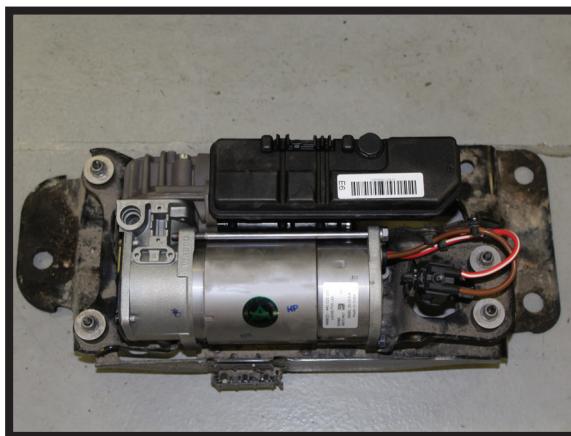

FIGURE 14
1. ASSEMBLE THE NEW AIR SUSPENSION COMPRESSOR USING THE INCLUDED HARDWARE IN REVERSE ORDER OF REMOVAL. (FIGURE 14)